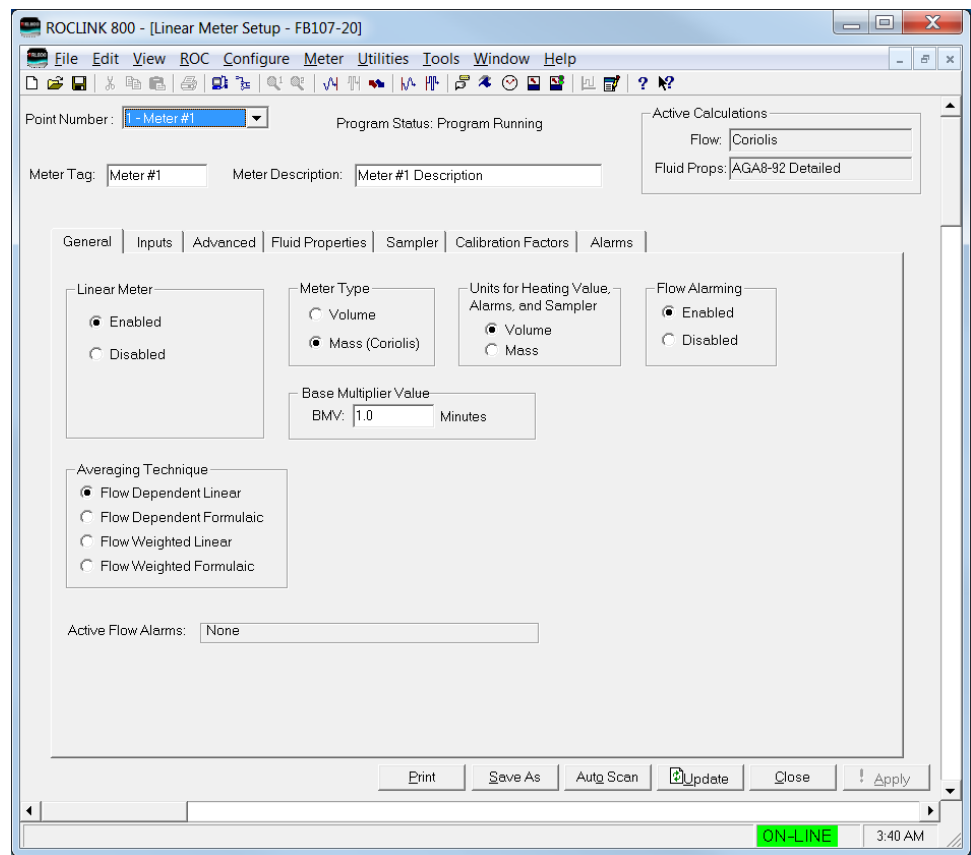

Figure 8. Linear Meter Setup
2. Double-click **#1, Meter #1**. The Linear Meter screen displays (see *Figure 8*):